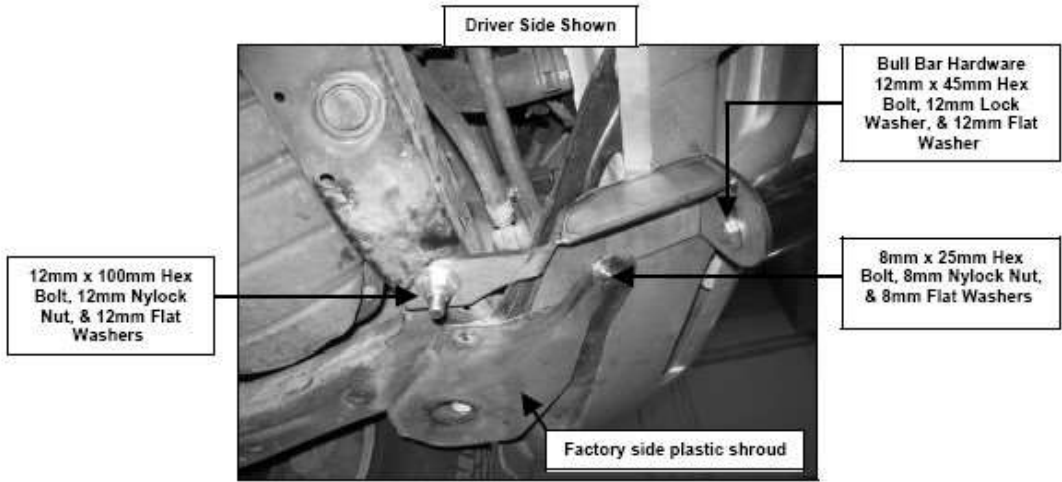

Figure 4
hardware to re-attach the side factory plastic shroud (Figure 4). **NOTE:** To ease the installation insert bolts with flat washer listed in this step through the top of the cross bar member and bumper support. Do not tighten at this time. Repeat this step for passenger side.
5. Position Bull Bar onto Mounting Brackets and loosely attach it with the included (2) 12-1.75 x 45mm Hex Head Bolts, (2) 12mm Flat Washers, and (2) 12mm Lock Washers (Figure 4).